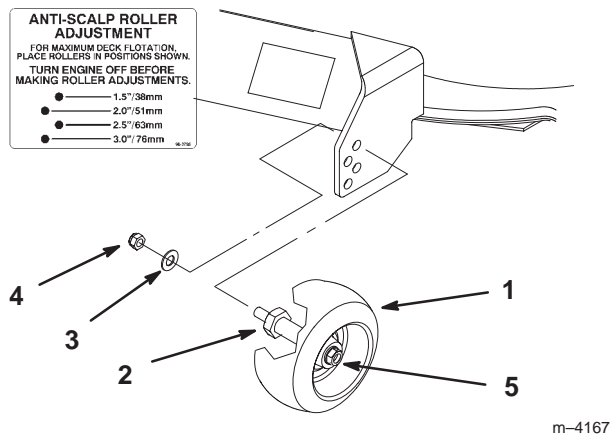

Figure 20
2. After adjusting the height-of-cut, remove the flange nut and spring disk while holding the stud with a wrench (Fig. 20).
- Note:** Do not remove the wheel nut and washer (Fig. 20).
3. Select a hole so that the gage wheel is positioned to the nearest corresponding height-of-cut desired (Fig. 20).
4. Reinstall the flange nut and spring disk (Fig. 20).